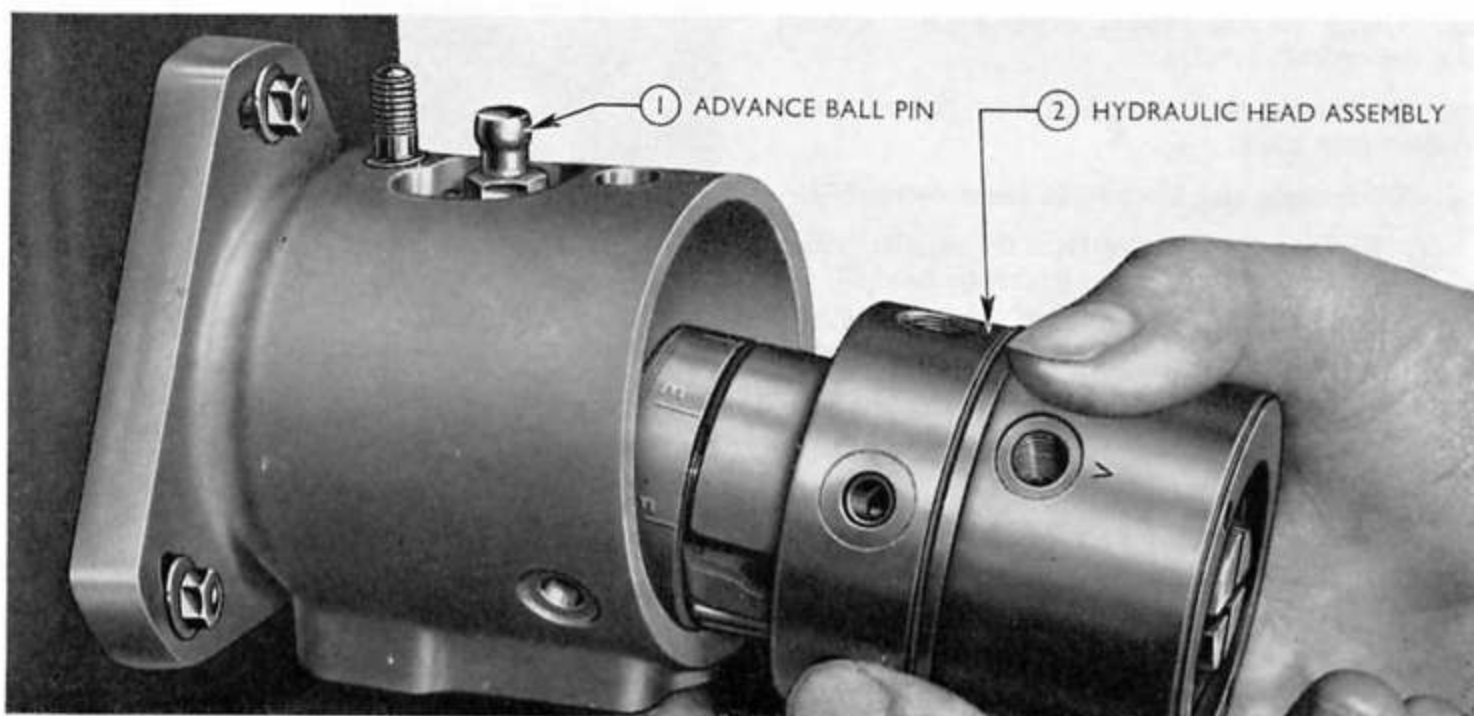

Fig. 42
14. Fit a new 'O' ring to the hydraulic head. Lubricate the pump body and install the hydraulic head with the bolt holes and drive master splines lined up (see Fig. 42).